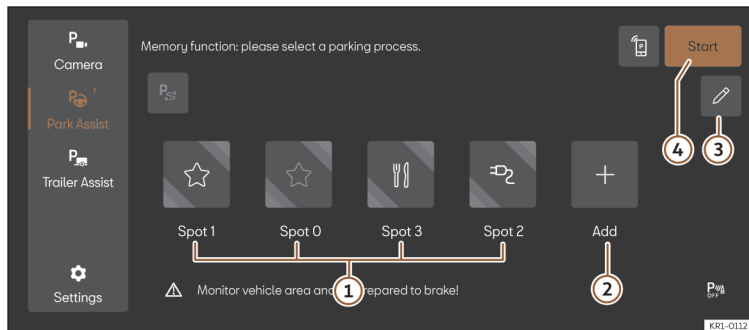

Fig. 146 Schematic representation: Parking system menu with memory function.
4. Select the function button, assign the symbol you want (>>> **Fig. 146 ①**) and confirm it.
2. If necessary, click on the parking space available icon in the Parking System menu >>> **Fig. 146 ①**. The function button will be displayed in copper.
3. Press the **Start** button >>> **Fig. 146 ④**.